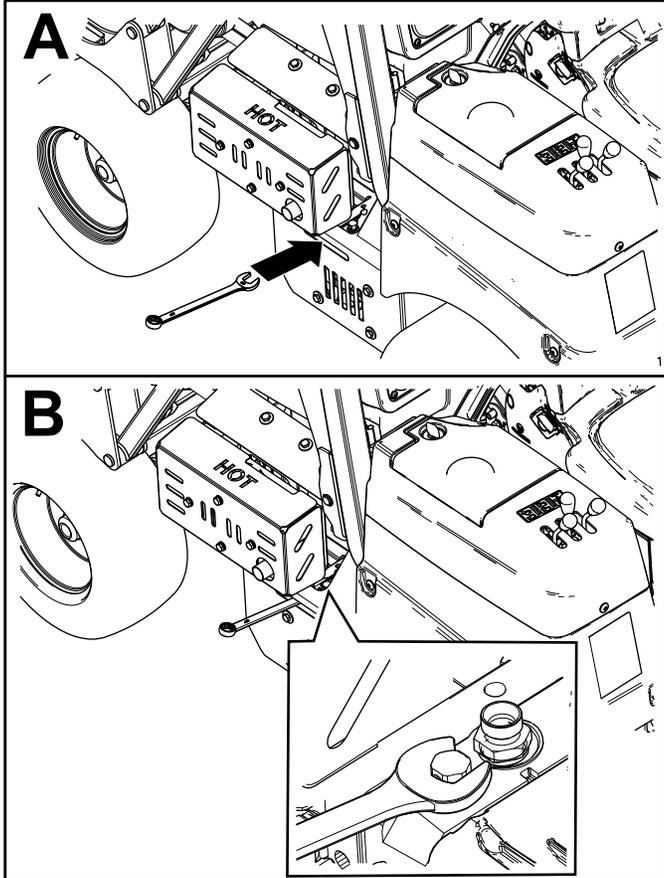

Figure 30
- It is important to carry a 16 mm (5/8 inch) wrench while operating the machine. Use the wrench to open the bypass valve if you need to push or tow the machine (Figure 30).
1. Locate the the bypass valve at the right side of the machine (Figure 30).
2. Using a 16 mm (5/8 inch) wrench, rotate the control knob 3 turns counterclockwise (Figure 30).
1. Locate the control knob for the bypass valve at the left side of the hydraulic pump (Figure 30).
2. Using a 16 mm (5/8 inch) wrench, rotate the control knob (Figure 30) clockwise until you feel resistance (the bypass valve is closed).